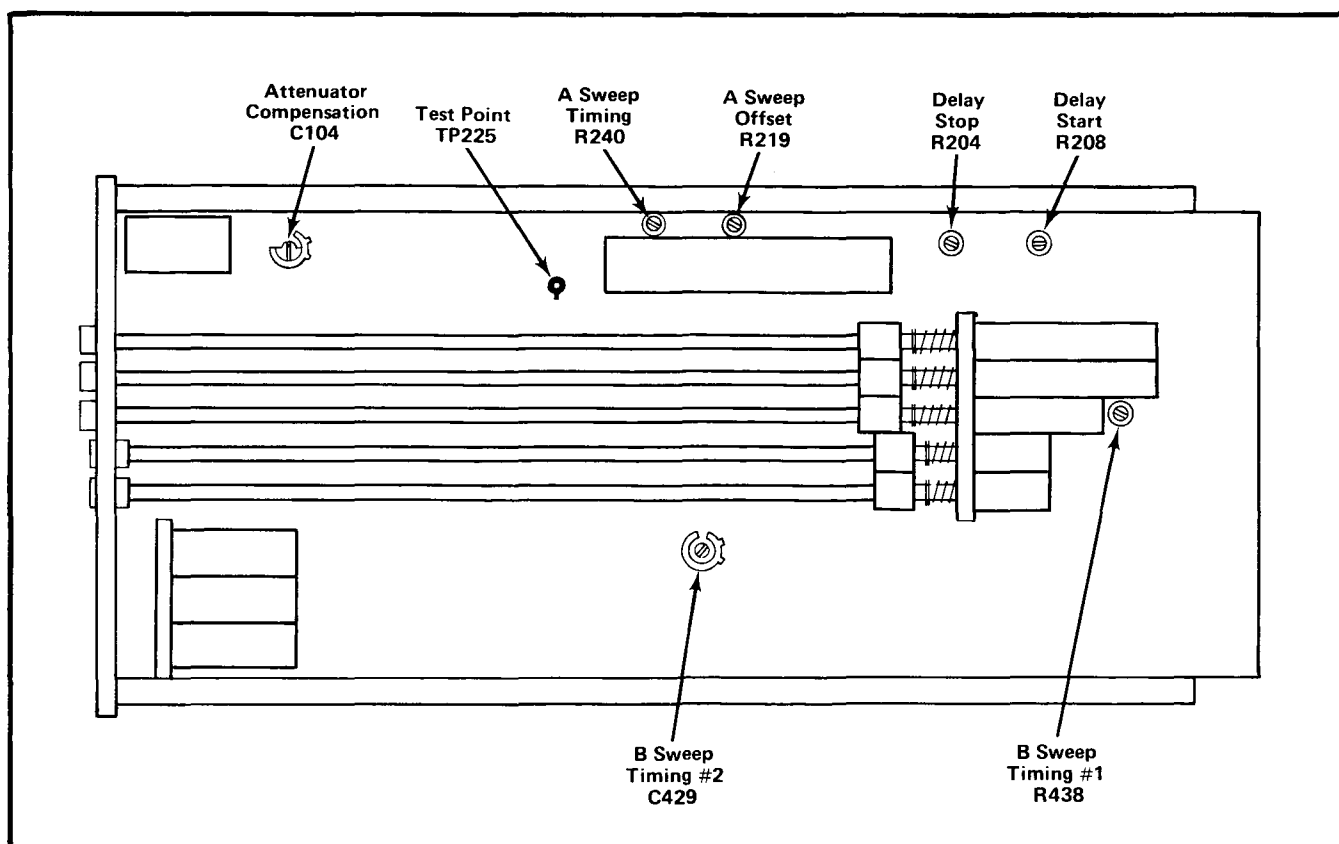

Fig. 3-1. Location of internal controls.
2. Check the rear of the oscilloscope to ensure that the indicated line voltage and the line voltage source are the same. Connect the oscilloscope to the power source. Set the controls as described under Initial Control Settings. Refer to Fig. 3-1 for location of internal adjustments and test points.